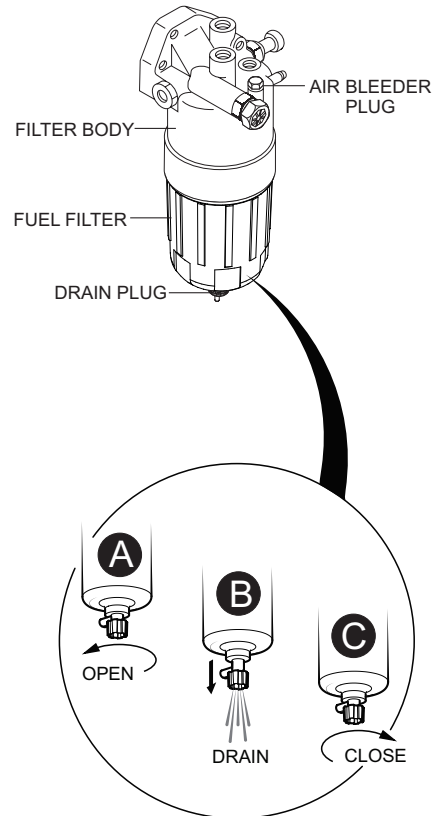

Figure 178. Draining The Fuel Filter
1. Loosen the **air bleeder plug** (Figure 178) on the fuel filter body.